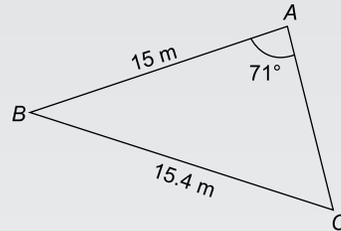

Figure RT1.4
- A triangular plot of land  $ABC$  is shown in Figure RT1.4. Solve the triangle and determine its area